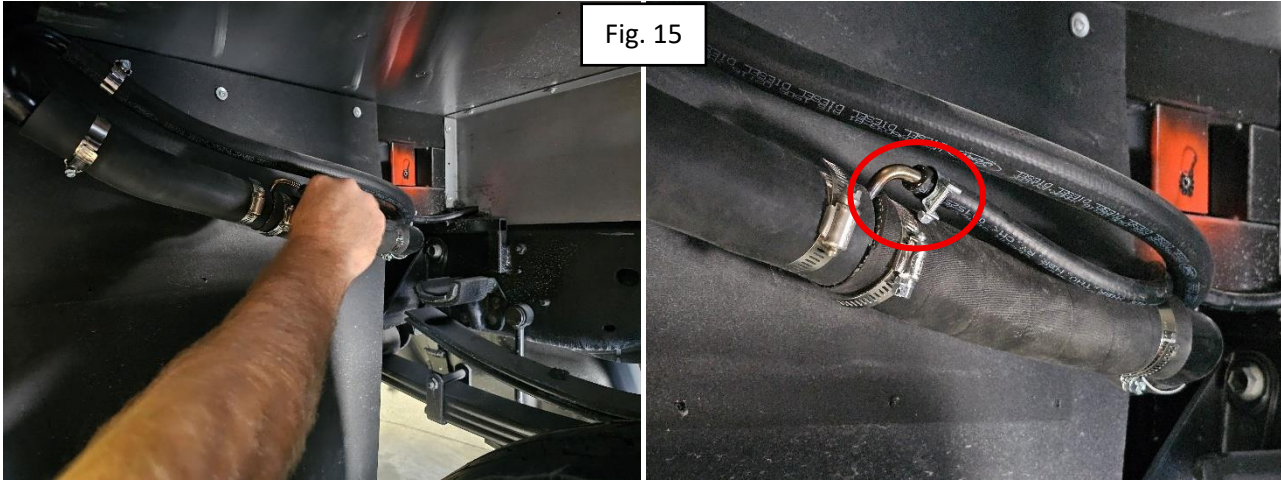

Fig. 15
20. Connect the return line to the barbed return elbow and secure it to the barbed elbow using a clamp with 7MM socket. (Figure 15)